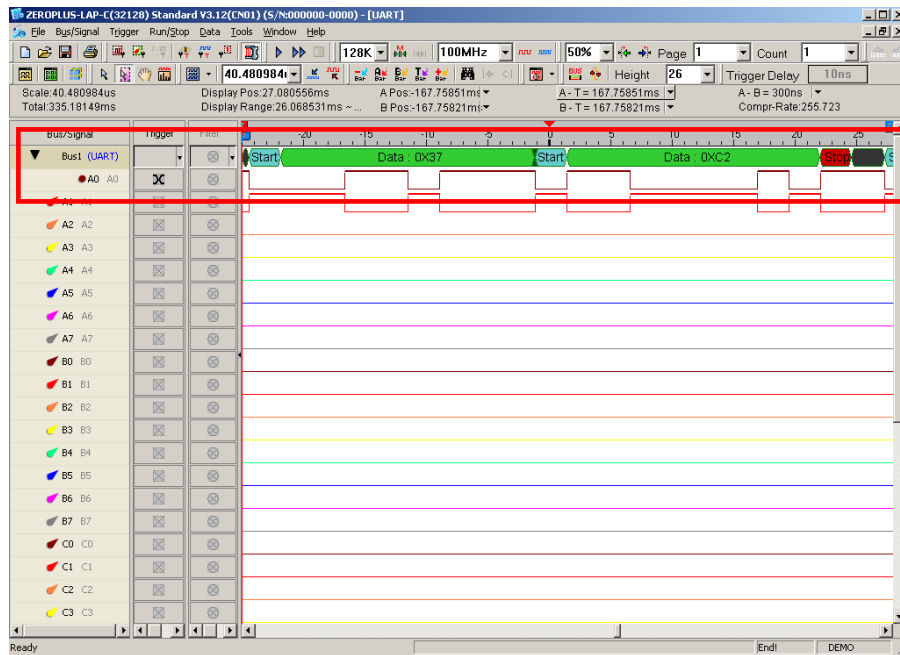

Fig 4-77 – Waveform Analysis
Step6. Click **Run** to acquire the UART signal from the tested UART circuit. Refer to Fig 4-77.